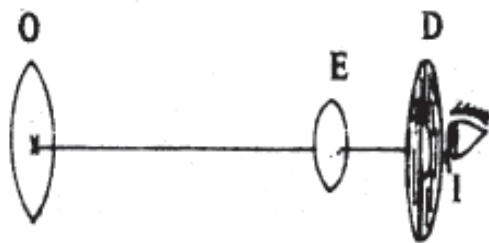

Fig. 19.6
- (vi) Now point this telescope to any distant object. Keep your eye at the hole in diaphragm D (Fig. 19.6) and look at inverted image of the object. You will have to move the diaphragm a little forward. You may also have to adjust the position of lenses O and E a little in order to focus a sharp image of the object.